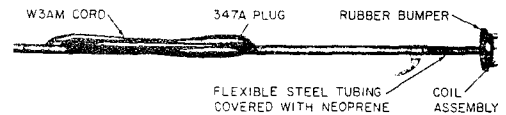

Fig. 2—105D Test Set
3.01 The 105D Test Set (Fig. 2) consists of two low-impedance balanced coils connected in series opposition and shunted by a 0.01 microfarad capacitor potted in a resin block.